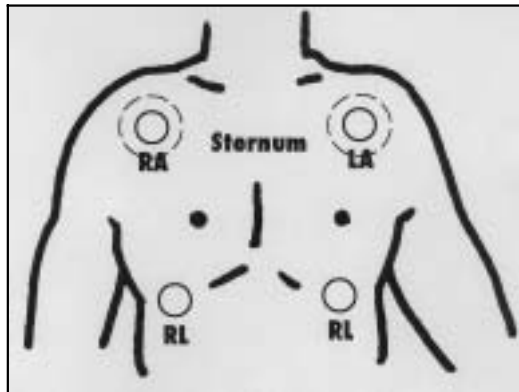

Figure 3-2. Site for placement of electrodes (1)
- The following sites will be used for electrode placement. See Figure 3-2.
- If the individual has a large amount of body hair, the electrodes can be moved slightly to give better contact with the skin. The site will not be shaved to avoid unintended injury or discomfort to the SP. Move the electrodes approximately 2 inches laterally. See the outer limit circles on RA and LA in Figure 3-2.